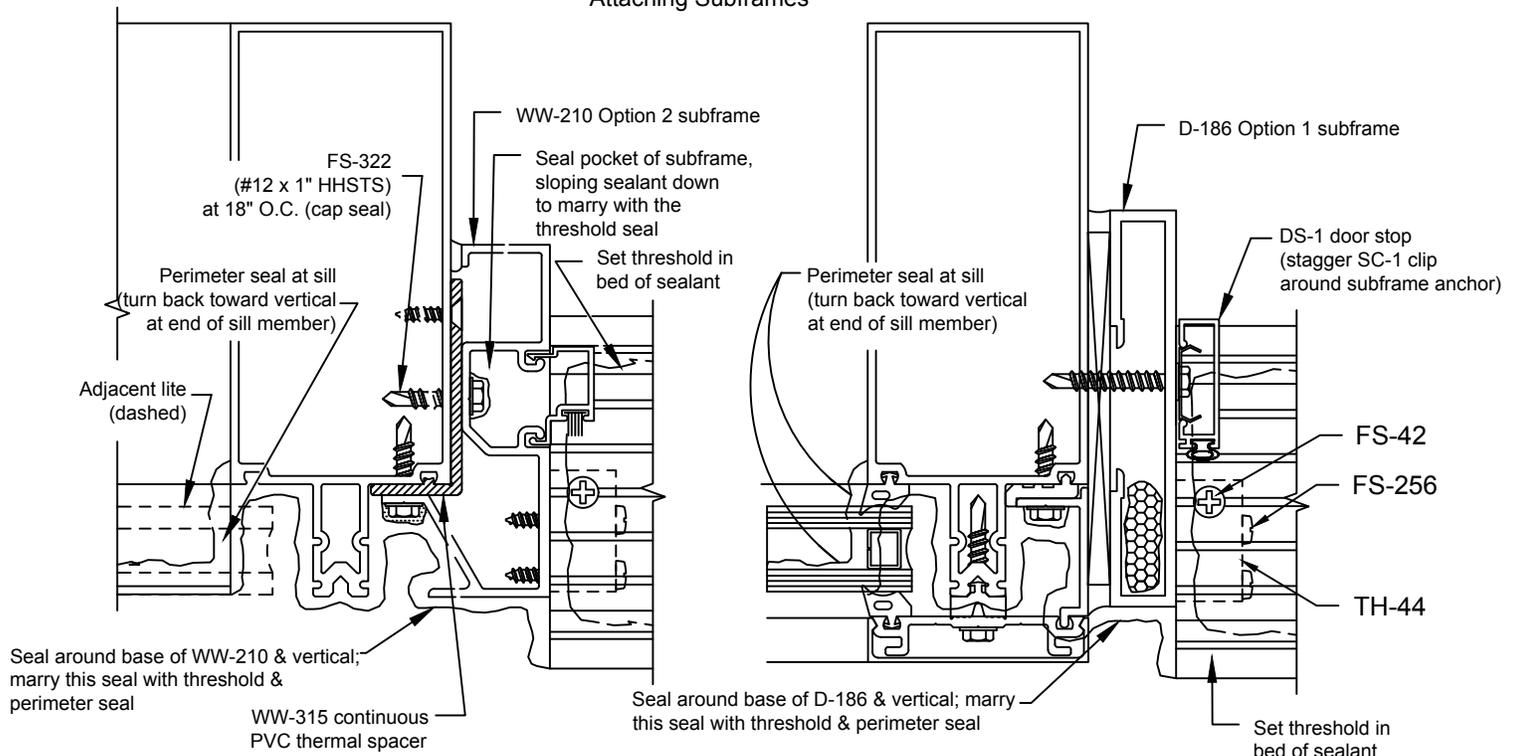

Figure 33
C.2.4 Bed threshold in sealant, attaching to TH-44 clips with FS-42 #12 x 1/2" Phillips Flat Head screws. Marry threshold seal with subframe and main system seal. SEE FIGURE 33, page 36.